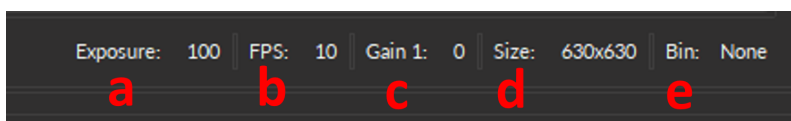

Figure 7.38: Microscope Monitoring Bar
2. The **Microscope Monitoring Bar** (Fig. 7.38) displays the parameters currently being used during the recording:
- a) The **Exposure** (Fig. 7.38, a) displays the value specified in Section 7.3.4, no. 1.
- b) The **FPS** (Fig. 7.38, b) displays the number of frames per second of the device. The maximum attainable frame rate in frames per second (fps) cannot surpass 1 divided by the exposure time in seconds. Thus increasing or decreasing the exposure in Section 7.3.4, no. 1 will change the **FPS**.
- c) The **Gain** (Fig. 7.38, c) displays the value specified in Section 7.3.4, no. 3.
- d) The **Size** (Fig. 7.38, d) displays the image resolution. If the image is **Cropped** (Section 7.3.4, no. 5), this value will be automatically updated.
- e) The **Bin** (Fig. 7.38, e) displays the value (none, 2x2 or 4x4) specified in Section 7.3.4, no. 6.